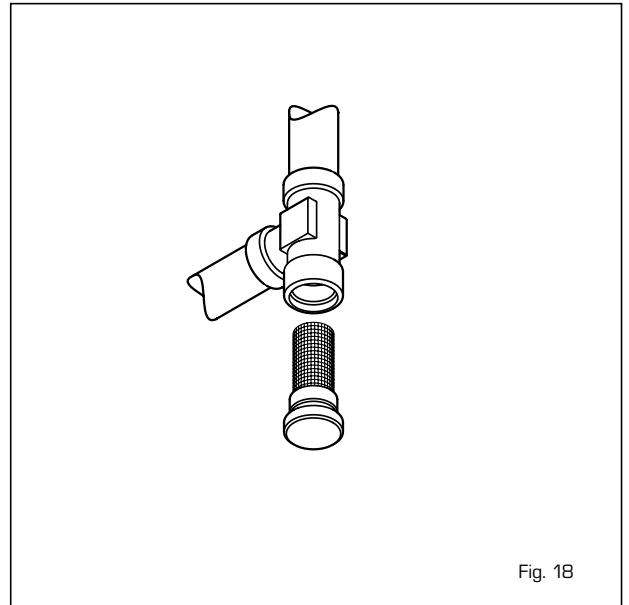

Fig. 18
5.8 CLEANING THE C.H. WATER FILTER (fig. 18)